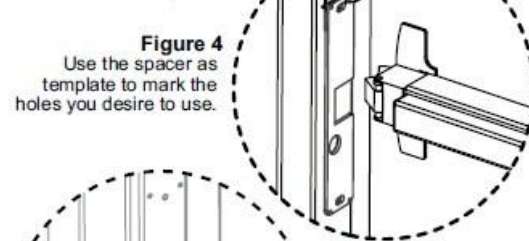

Figure 4
5. Using the spacer as a template; mark the two mounting holes and the wire exit hole. If you are using the optional anchor pins, mark the anchor pin positions using the spacer as a template. See Figure 4